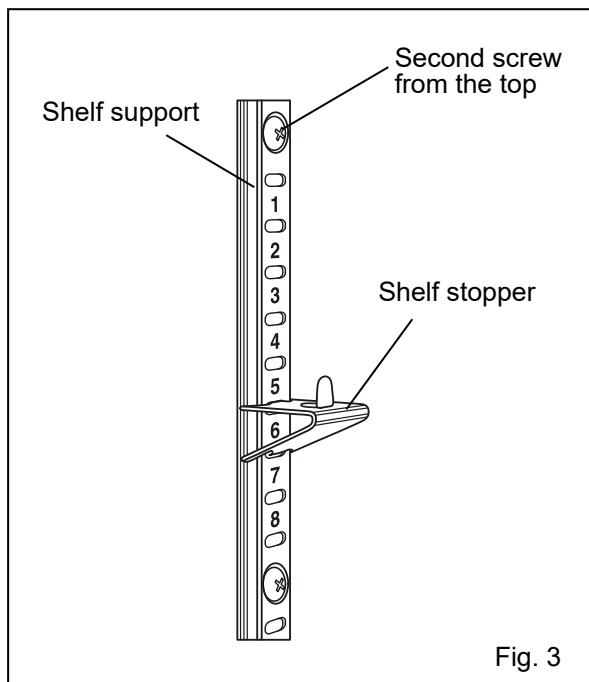

Fig. 3
- 1) The sixth hole under the second screw from the top (top screw) [Fig. 3]